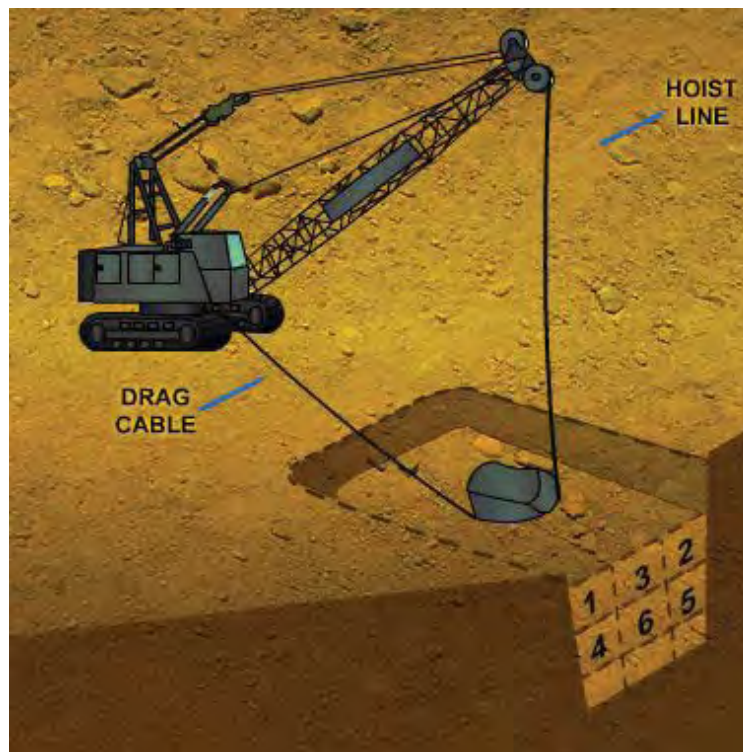

Figure 21-72 – In-line approach.
- In-Line Approach – When excavating a trench with the dragline, ensure the dragline carriage is in line with the trench center line as shown in *Figure 21-72*. The dragline cuts or digs to the front and dumps on either side of the trench. The crane moves away from the face as the work progresses.